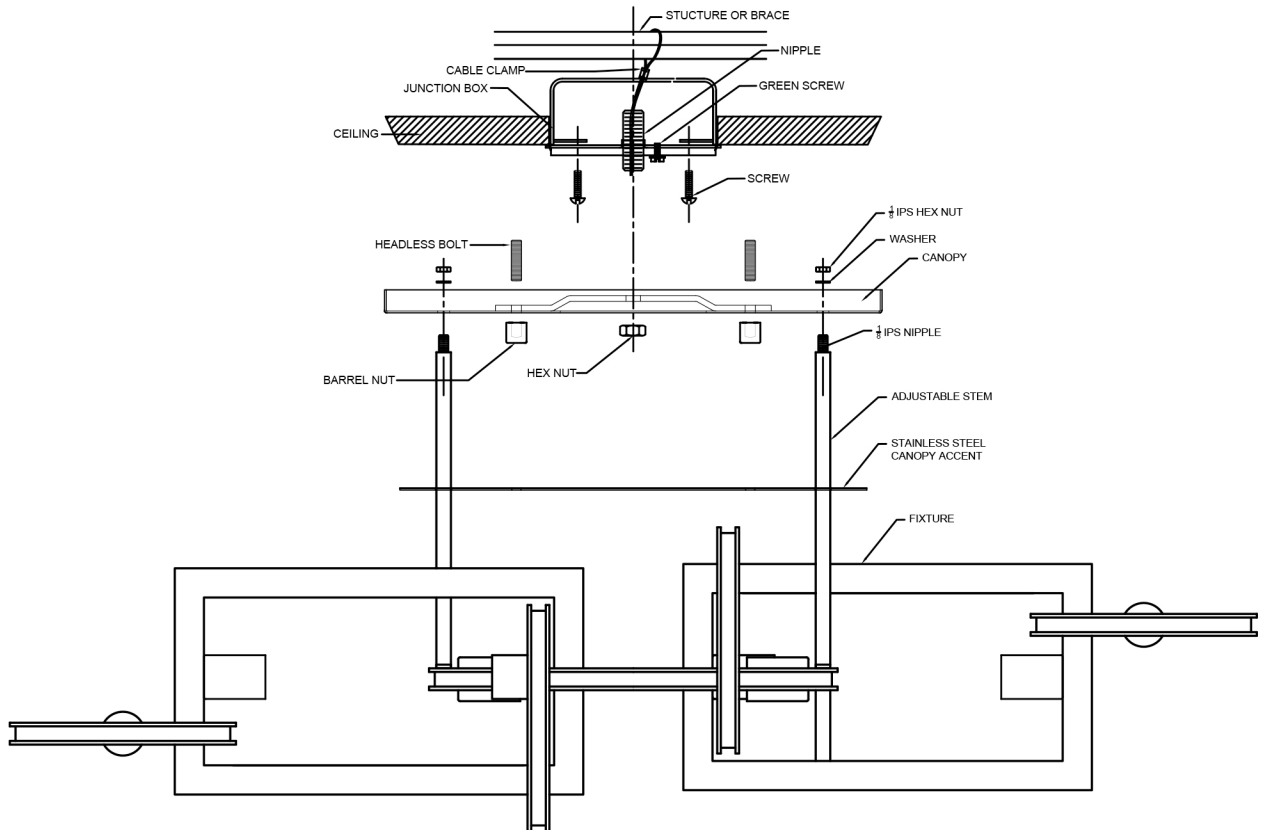

FIGURE-02
2. Determine the overall desired length of the fixture. Assemble the adjustable stems one at a time onto the fixture leads. Tape the end of the leads to a stiff wire (coat hanger) to aid in pulling them through the stems. Place the stainless steel canopy accent onto the stem then mount the canopy on the end of the stems and secure it with washers and nuts. (See Figure-02)
3. Place the headless bolt to the canopy that extend  $\frac{3}{8}$ " beyond the canopy, then hang the fixture to the mounting strap by fastening the canopy to the nipple using hex nut. Then attach the SAFETY CABLE to the building or structure or brace. (See figure-02)